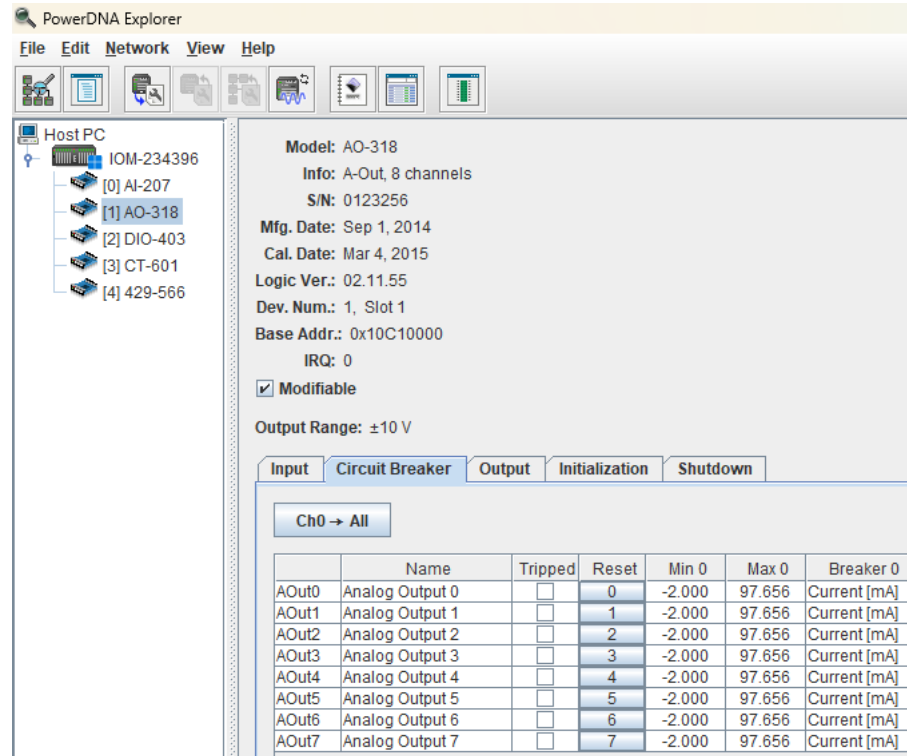

Figure 6-6. Monitoring Circuit Breakers on AO-318 Channels
2. Click the **Circuit Breaker** tab (Figure 6-6).